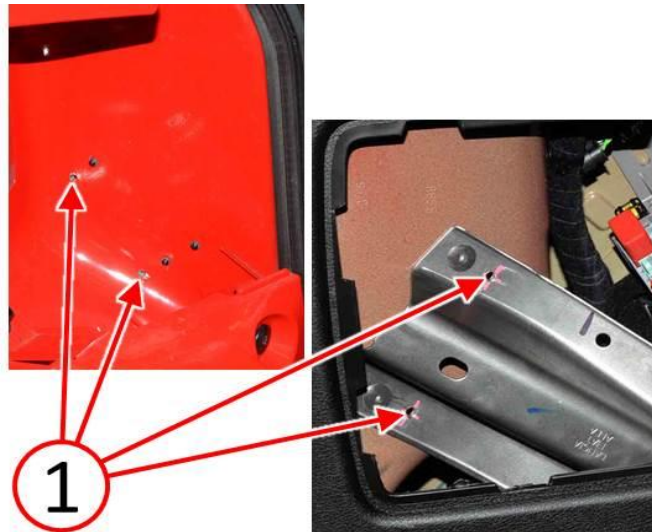

Fig. 3 Drill Two Rivet Holes Through Each Support Bracket
4. Using a drill and a 5 mm drill bit, drill 2 new holes (1) through each support bracket and tail lamp bucket at the previously marked locations (Fig. 3). Perform this step for both the left and right rear quarter trim panel support brackets.
5. Remove all burrs from the holes (1) and clean away any metal shavings from vehicle interior and from the tail lamp bucket (Fig. 3). Perform this step for both the left and right rear quarter trim panel support brackets.
6. **Apply a corrosion-preventor primer (3M Single Step Primer) or equivalent over holes (1) (Fig. 3). Allow the primer to dry for approximately 10 minutes at a temperature of 60-70°C (140°-158°F).**